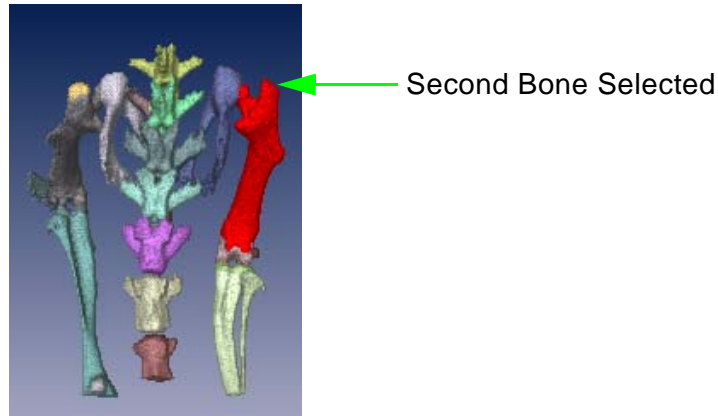

Figure 43. Second Bone to be Joined Turns Red
- Shift -click the second bone to be joined to the first bone. The bone turns red. See Figure 43.